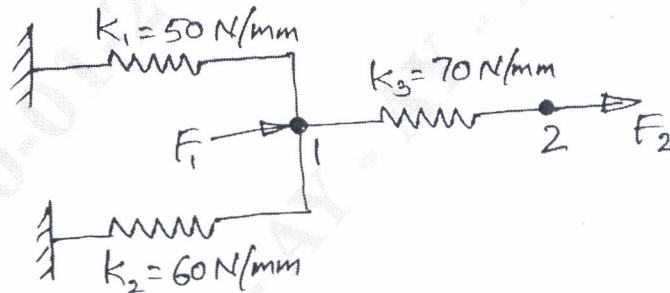

Fig.Q.1(b)
b. State the principle of minimum potential energy. Using principle of minimum potential energy, determine the nodal displacements for the spring system shown in the Fig.Q.1(b). Take $F_1 = 75 \text{ N}$ and $F_2 = 100 \text{ N}$. (12 Marks)